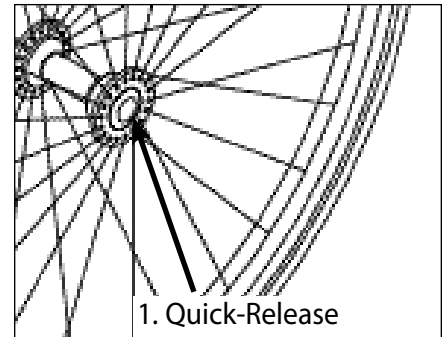

Figure 1
- The quick-release button pops out fully. (Fig. 1)
To install wheel (Figs. 1 and 2):